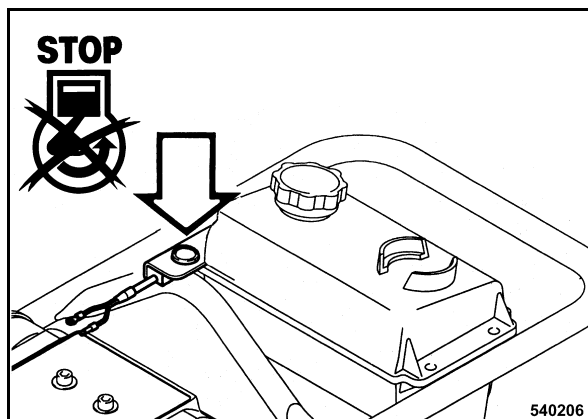

Fig. 24
- Press the engine shut-down button (Fig. 24).